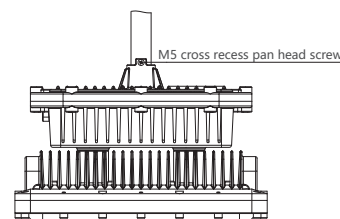

Fig. 4
10. Attach 3/4" size pipe with M5 screws. (Figure 4)